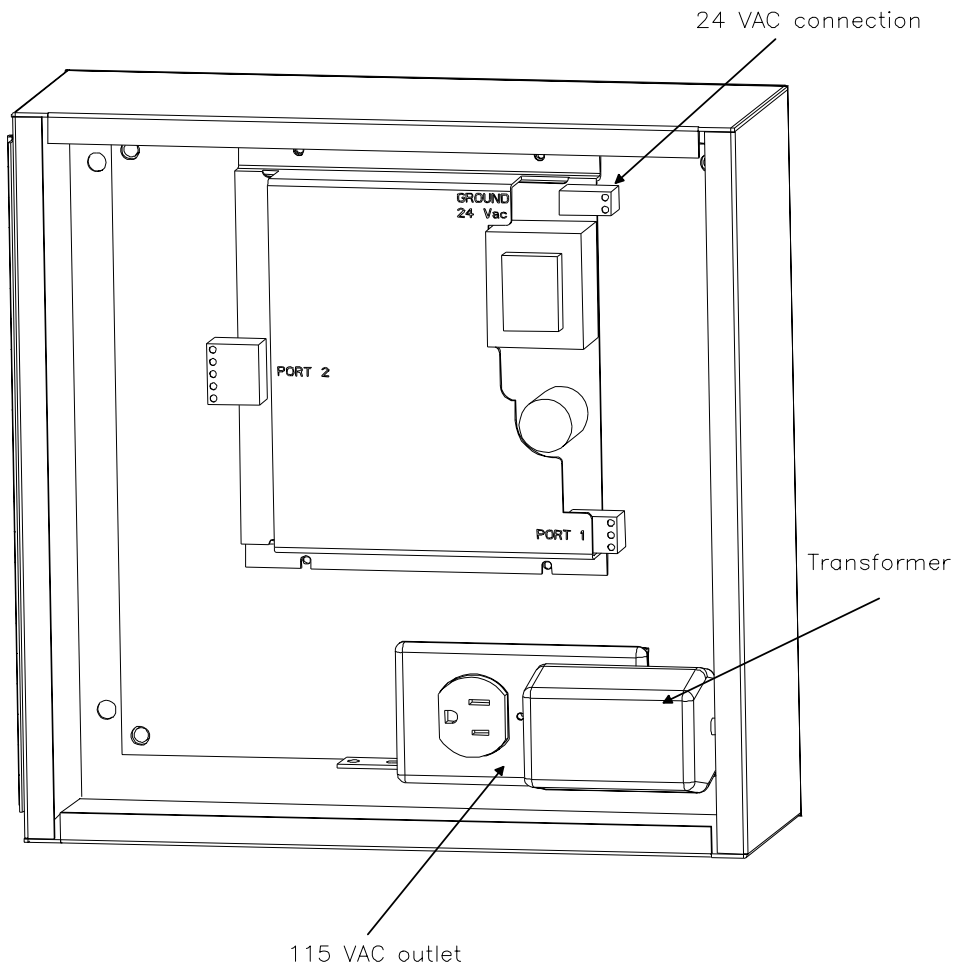

Figure 3. BACLink Enclosure Electrical Components
1. Power must be supplied to the 115 VAC outlet from an external source (see Figure 3).